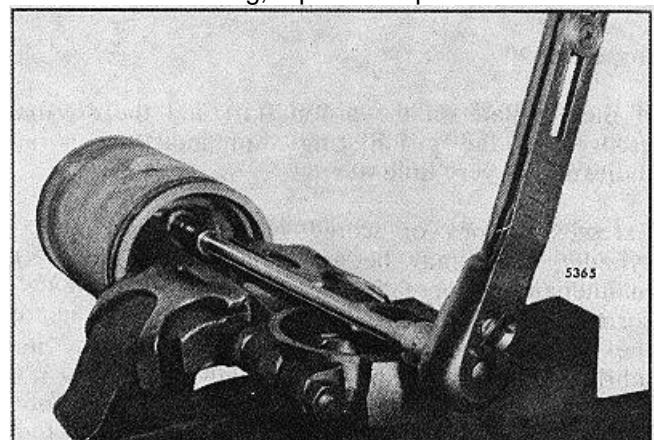

FIG. 20 -Tightening Connecting Rod to Piston Pin Bolts
7. Install and tighten the bolts finger tight. Then clamp the connecting rod in a vise and tighten the bolts to 55-60 lb-ft (75-81 Nm) torque (Fig. 20). Do not exceed this torque.